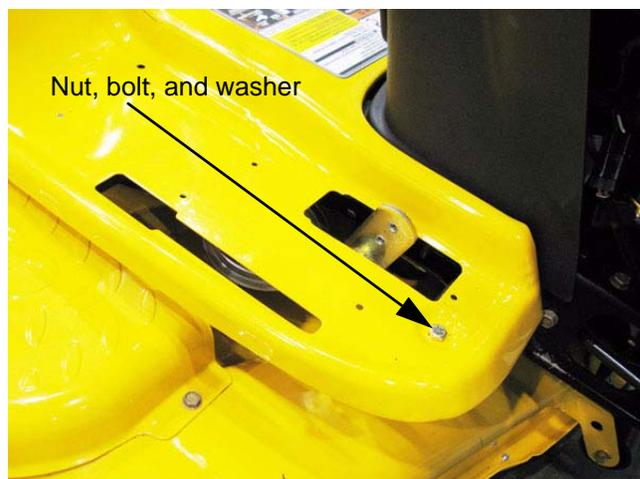

Figure 4.32
- 6d. Remove the nuts and bolts that hold the front edge of each fender to the frame outriggers using a pair of 7/16" wrenches. See Figure 4.32.